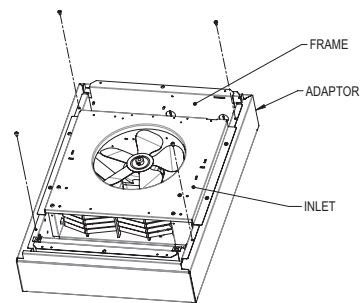

FIG. 6
3. Using the screws included with the sleeve adaptor, attach the sleeve adaptor to the frame (see figure 6).
4. Remove the inlet of the frame (see figure 6) by unscrewing the four (4) screws.
3. Remove the inlet of the frame (see figure 6) by unscrewing the four (4) screws.